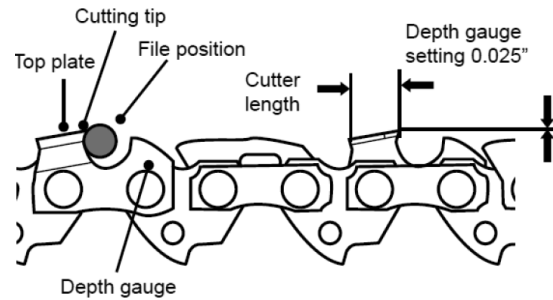

Figure 19
3. File at an angle perpendicular to the bar and at an angle of 25 degrees to the direction of travel. See Figure 19, right.